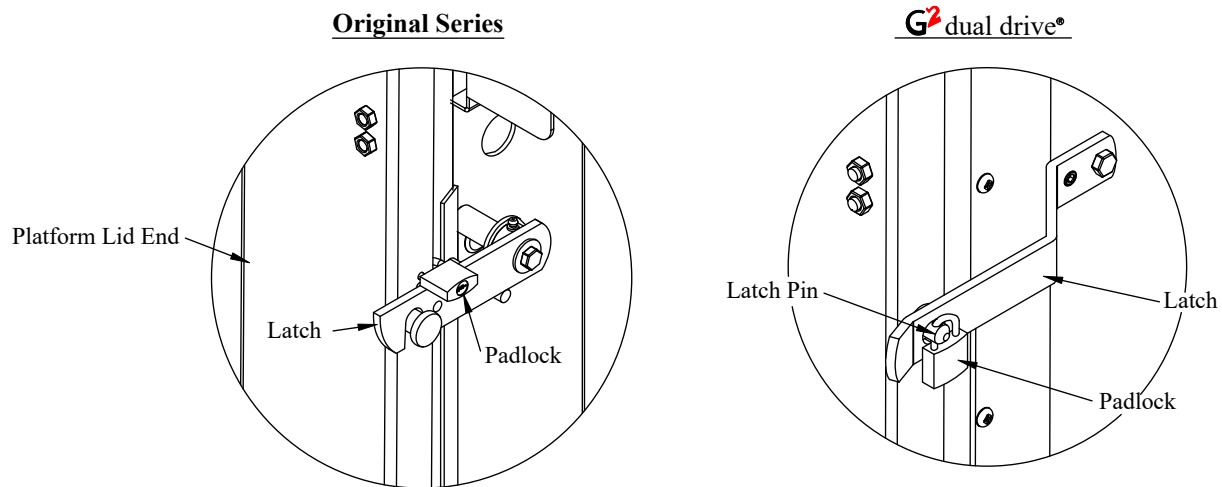

Figure 20: Padlock location.
9. **Lock** the padlock through the hole in the platform or latch pin (Figure 20).